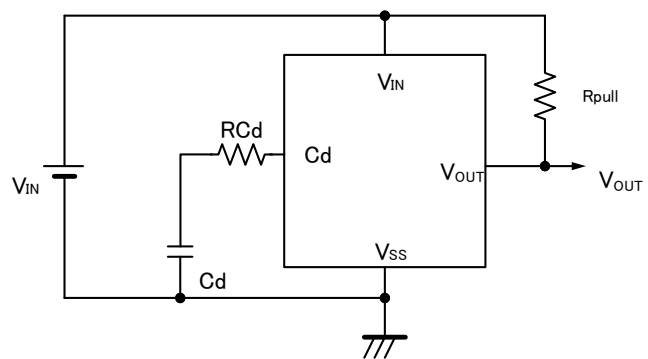

Figure 4: Circuit example with a resistor connected to the  $C_d$  pin
- To place a resistance ( $RC_d$ ) of 500 $\Omega$  to 1k $\Omega$  between the  $C_d$  and  $C_d$  pin. (See Figure 4)